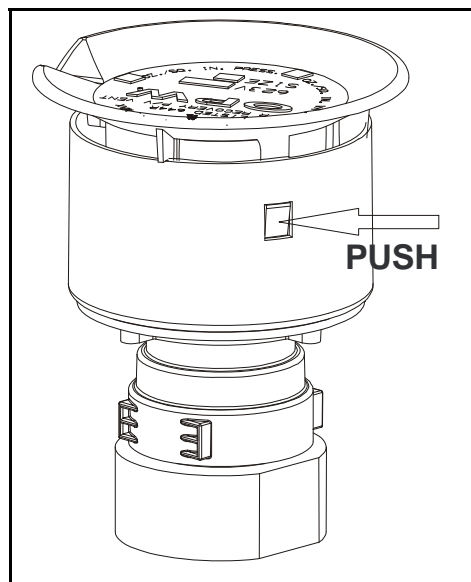

Figure 2
1. Remove vent top by depressing tabs as indicated in Fig. 2, and lift top upward. Screen will slip up and out of valve.
- 1.) Remove the rotatable adaptor socket from the base bar by taking out screw "B". The finished assembly should be as seen in Figure 2.